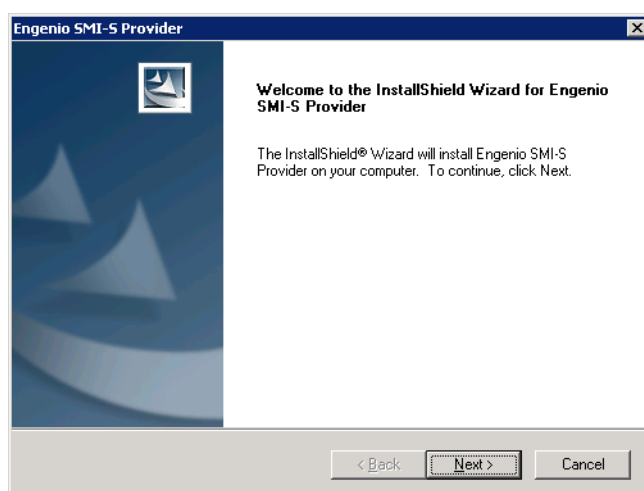

Figure 7-4 Welcome window of Engenio SMI-S Provider InstallShield Wizard
2. Extract the downloaded file and launch the installer to start the installation process. In our example, the installer file name is Windows_Installer_09.16.G0.34_setup.exe. Launching the executable starts the InstallShield Wizard and opens the Welcome window, as shown in Figure 7-4. Click **Next** to continue.